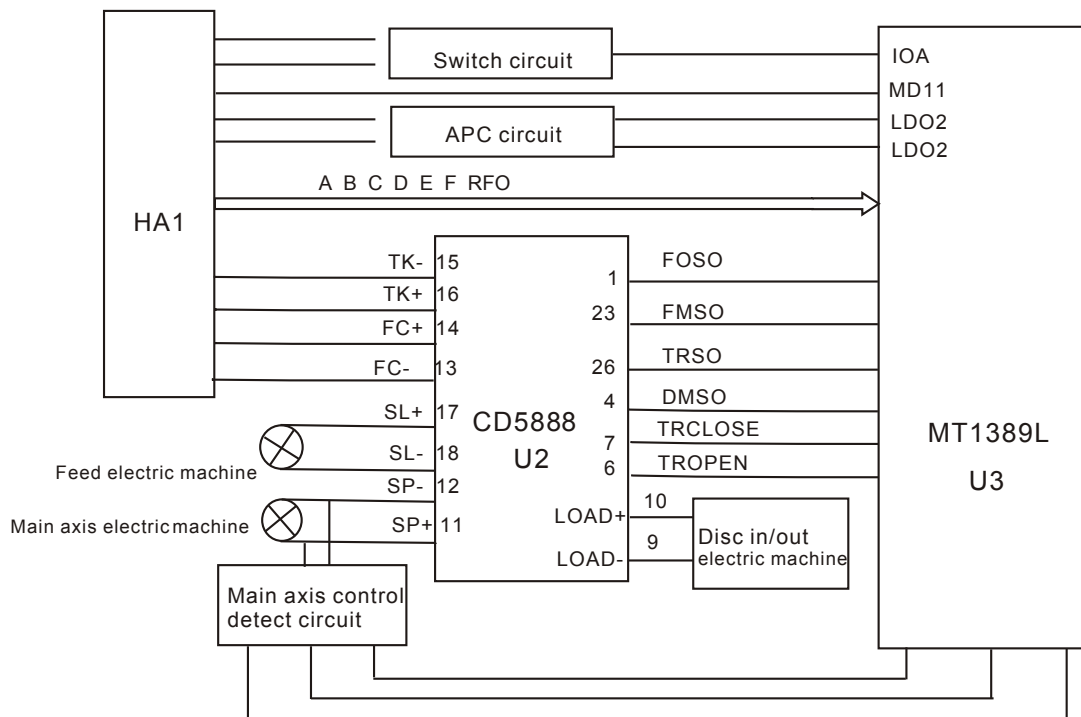

Figure 3.2.2.1 Servo circuit block diagram
1. Servo system of this player adopts SANYO loader + MTK decode solution (MT1389L+FLASH (16M) + SDRAM (64M)), and its servo circuit is mainly composed of front end signal processing, digital servo processing, digital signal processing IC MT1389L and drive circuit CD5888S , in which MT1389L is also the main composed part of decode circuit. Servo circuit block diagram is shown as in the following figure 3.2.2.1: